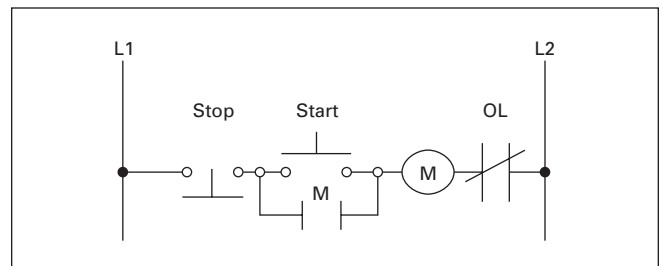

Figure 10. STOP Button Opens Circuit
Pressing the STOP (**Figure 10**) button will cause the Normally Closed (NC) contact to open the circuit, de-energize the coil, and drop out contact M. Releasing the STOP button will return the circuit to its original (off) state.